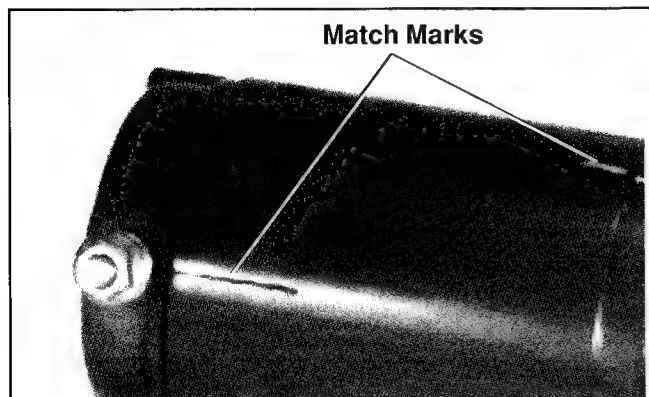

Figure 8-17. UT Starter Assembly Match Marks.
3. Install the drive end cap over the drive shaft. Make sure the match marks on the end cap and starter frame are aligned. See Figure 8-17. The small notch in the edge of the end cap, adjacent to the match mark, will engage a small tang inside the end of the starter frame.